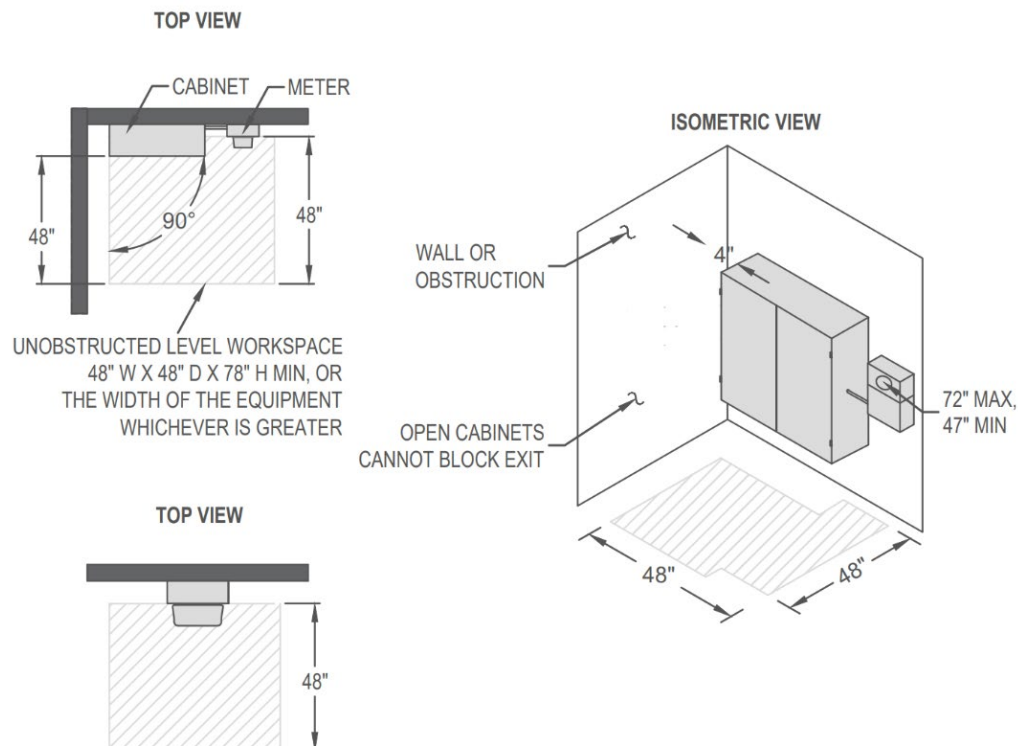

Figure 22. Minimum Unobstructed Workspace Around Metering Equipment (STD-D-1110)
- The minimum unobstructed level (flat) workspace in front of a meter is 78" high, 48" wide, and 48" deep (or the width of the equipment, whichever is greater). See Figure 22. In some situations, PGE may also require handrails.